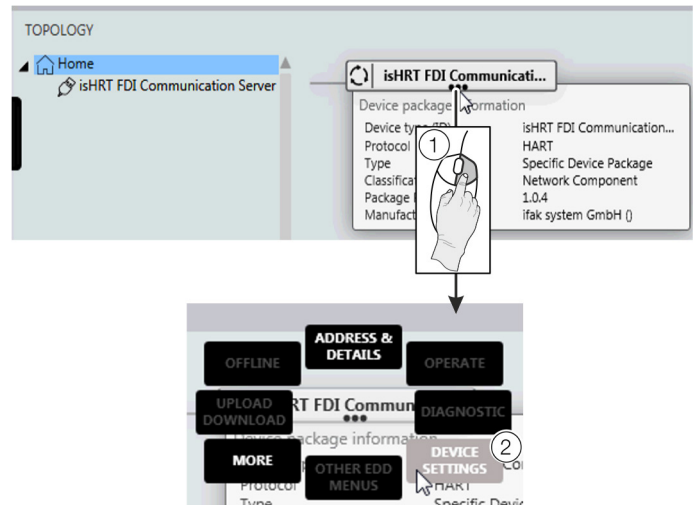

Figure 59: Select FIM – 'Device Settings'
6. Right-click ① as shown in **Figure 59**.
7. Select 'DEVICE SETTINGS' ② as shown in **Figure 59**.